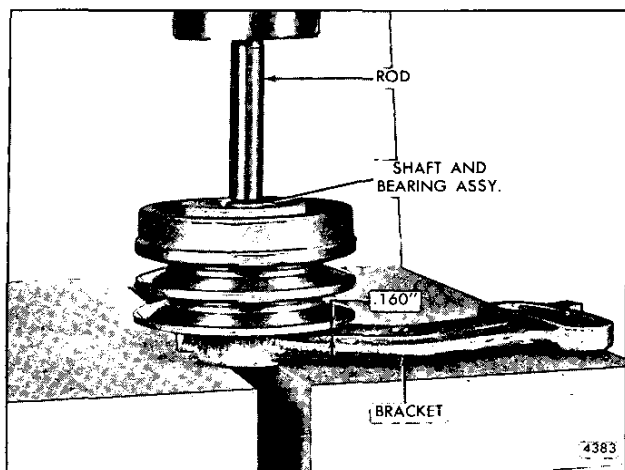

Fig. 4 – Installing Shaft and Bearing Assembly and Pulley in Bracket
2. With a short rod, apply pressure on the shaft only and press the shaft and bearing assembly with the pulley into the idler pulley bracket (Fig. 4). The distance between the outer edge of the pulley and the bracket must be .160".